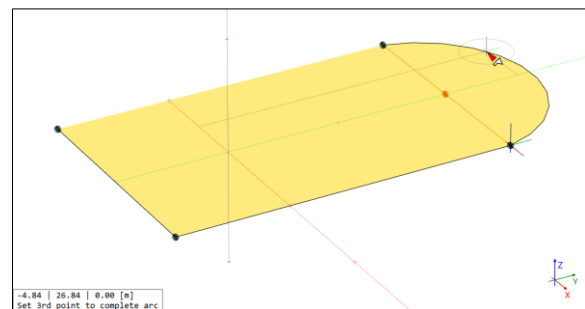

Figure 7.15 Setting the point that is on the arc after the end point of the arc was defined.
3. As a last step, a point must be chosen that is on the arc, also in 3D coordinates (Figure 7.15). Its position determines the opening angle and the radius of the arc.